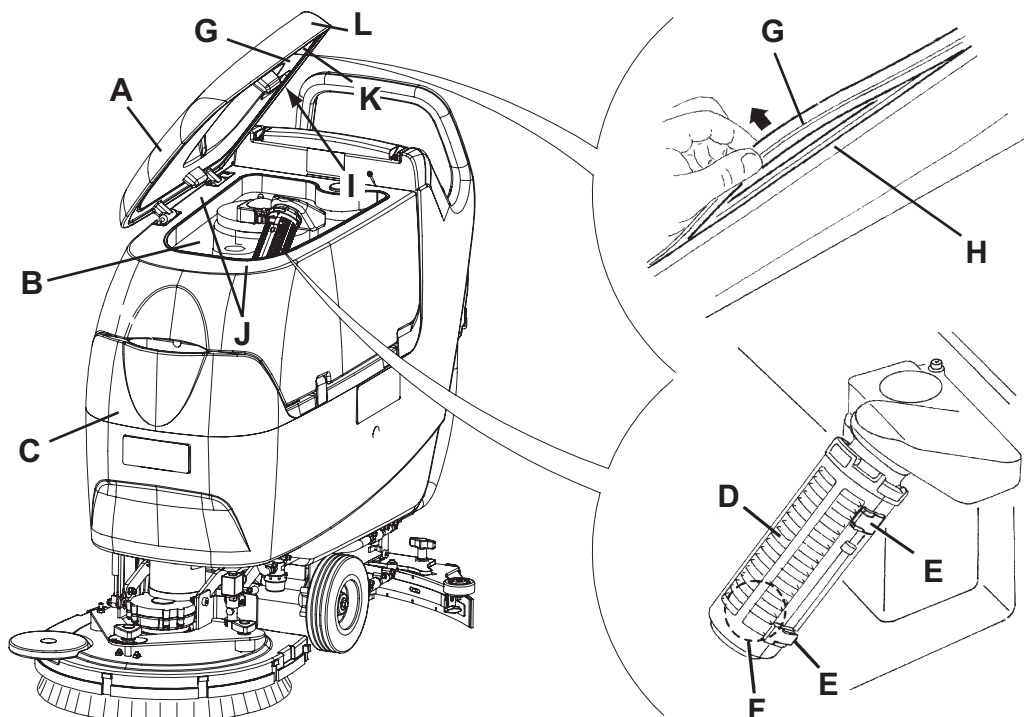

Figure 5
3. Open the cover (A, Fig. 5) to washing position (L).
4. Wash with clean water the cover (A), the tanks (B and C) and the vacuum grid with automatic shut-off float (D).